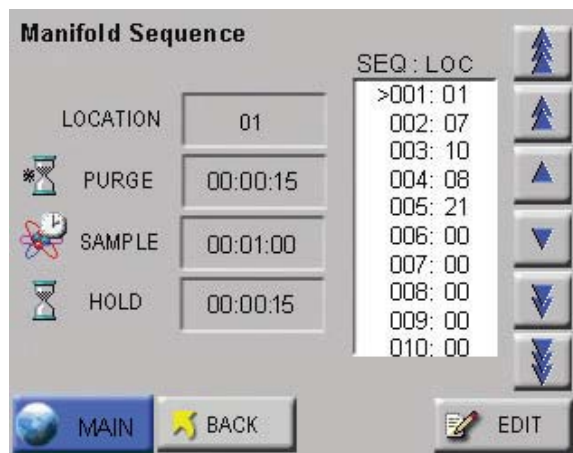

Figure 6-31 Manifold Sequence Screen
2. On the Configuration Screen, press the SEQUENCE button. The Manifold Sequence Screen shown in Figure 6-31 appears.